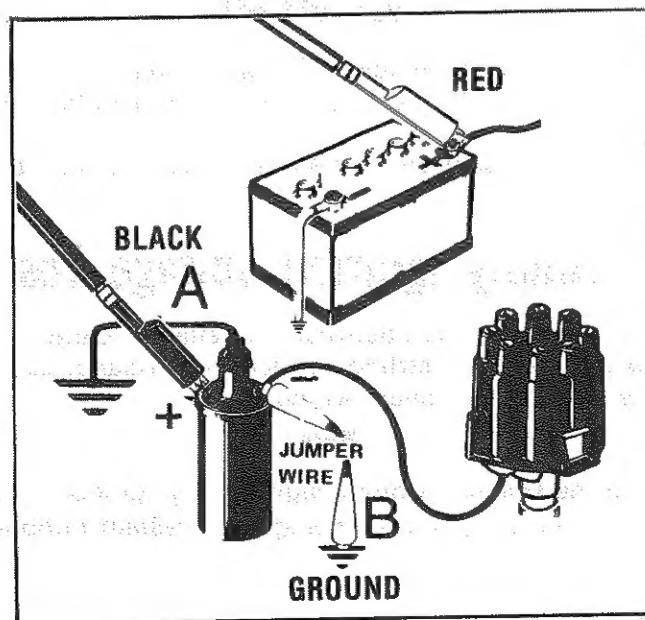

Figure 8. Two Ways to Disable a Standard Ignition System [A] Ground the Coil Secondary Cable [B] Ground the Coil Negative Terminal.
3. Connect Red test clip to positive (+) battery terminal and Black test clip to positive(+) coil terminal, as illustrated in figure 8. Connect a Jumper Wire between negative (—) coil terminal
3. Connect Jumper Wire and Red and Black test clips as shown in figure 8. To disable Electronic Ignition systems, see General Information section.